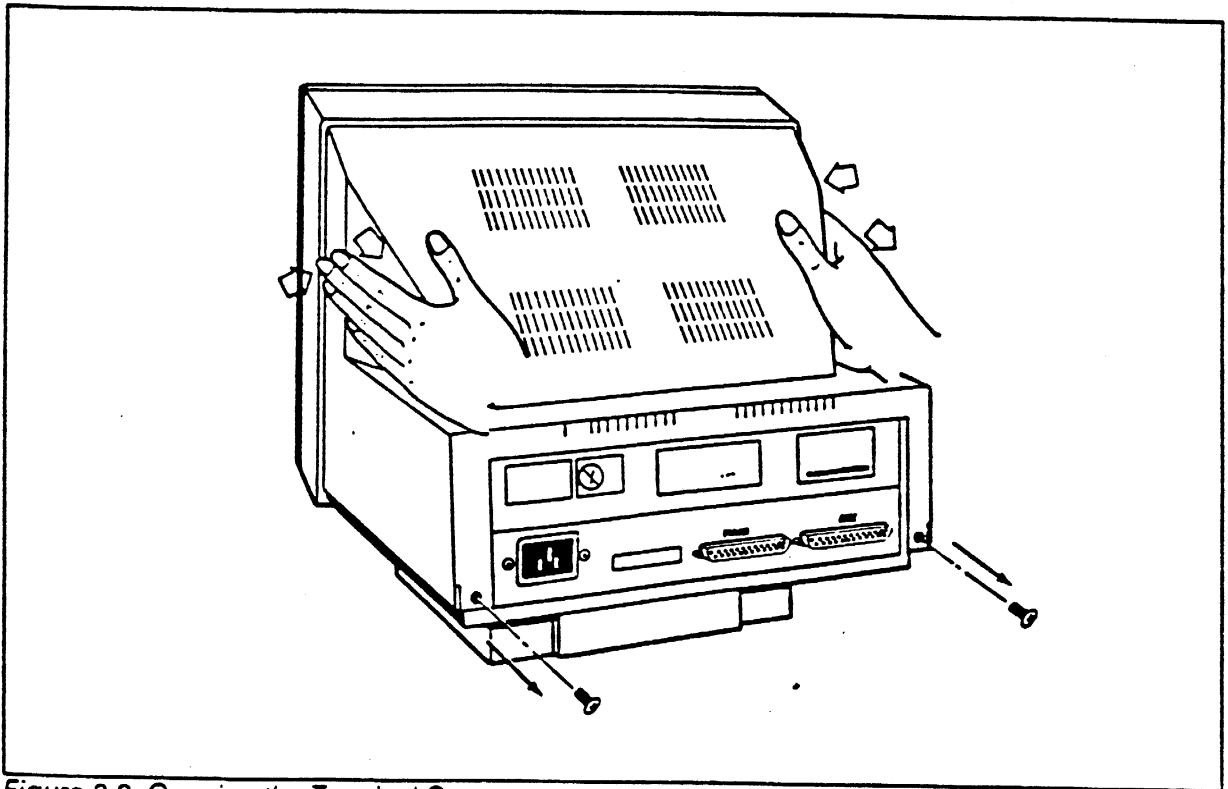

Figure 3-2. Opening the Terminal Case
- A. Follow instructions and drawings on Figure 3-2 and 3-3.
- B. Reinstall terminal case, Figure 3-2.